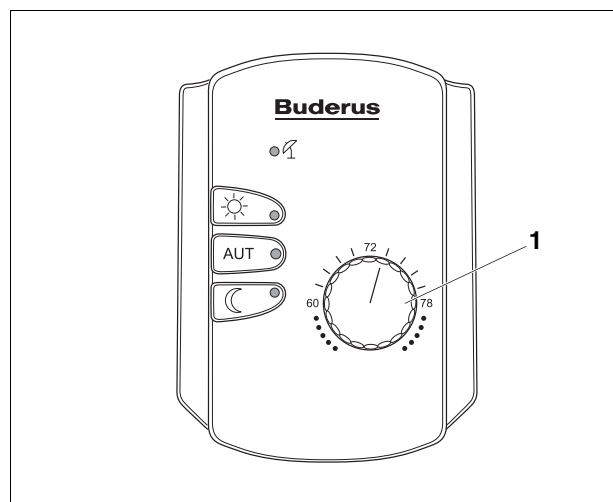

Fig. 11 Remote control
- Turn the dial (Fig. 11, **Item 1**) to the desired day-time room temperature, e.g. 70°F (21°C).